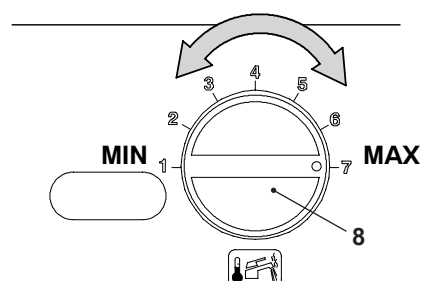

Figure 17.16
- The heating thermal power can be changed by turning the hot water temperature adjustment knob 8 shown in Figure 17.16.